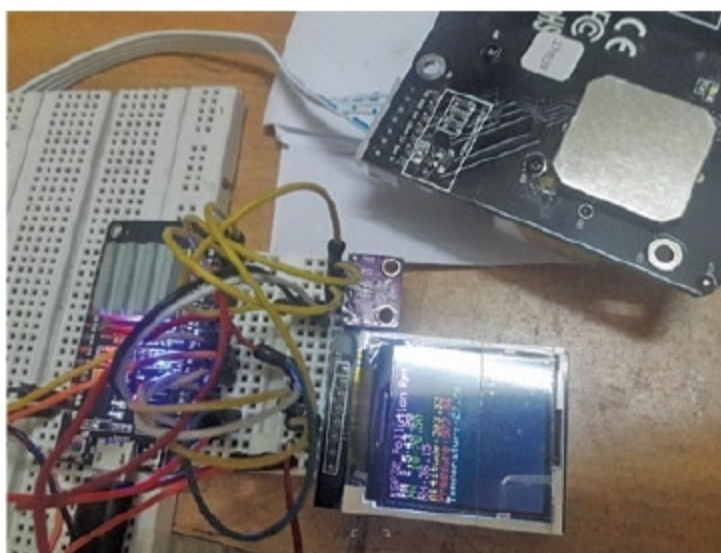

Fig. 1: Author's prototype
This is an ESP32 NodeMCU-based environmental monitoring system to check particulate matter (PM), humidity, temperature, altitude and pressure levels. Various environmental conditions of the place are tested and displayed on the TFT display as well as on ThingSpeak IoT (Internet of Things) platform. The author's prototype is shown in Fig. 1.